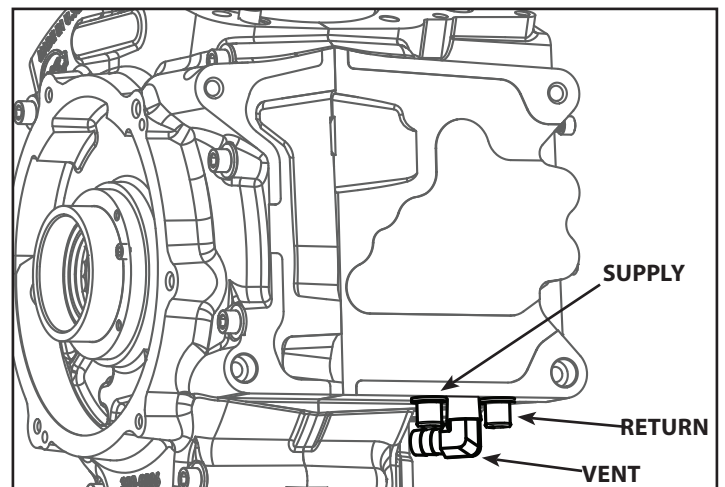

Figure 2
- A. Oil line mock-up is recommended to get an idea of final routing before cutting any oil line. Refer to **Figures 2 & 3, page 5** for correct placement on crankcase.